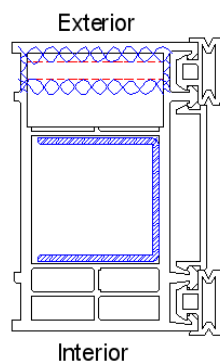

FIG 1.
- a) Identify the hinge jamb for stacking side and latch jamb as per FIG 1 thru 2.